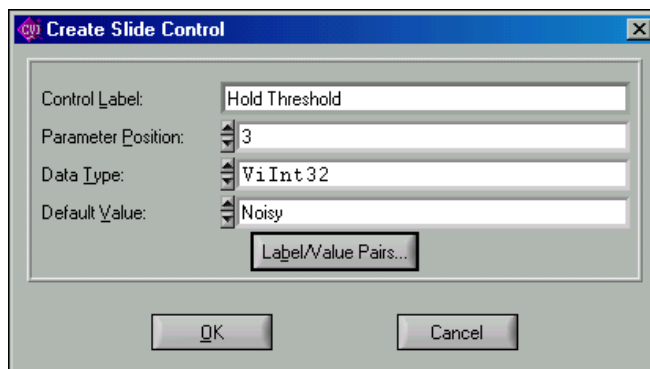

Figure 5-20. Edit Slide Control Dialog Box
- b. Complete the Edit Slide Control dialog box as shown in Figure 5-20.